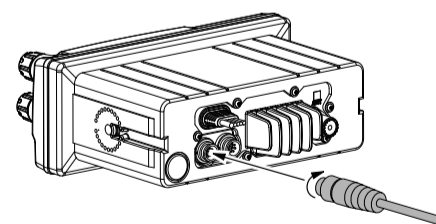

FIGURE 1
1. Connect the Extension Cable to the 8-pin connector on the transceivers rear panel, then tighten the Cable Nut (Figure 1).